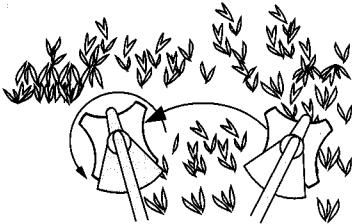

Fig. 5
- Swing the unit into material to be cut from your right to your left (Fig. 5).